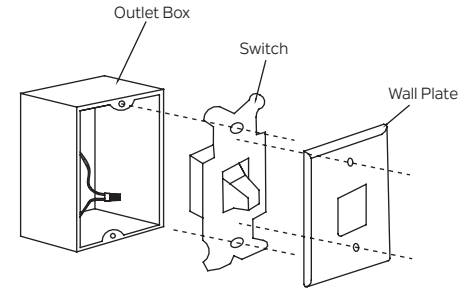

Fig. 22
Step 1. Remove the existing wall plate and the old switch from the wall outlet box. Wire the BLACK leads (hot) together with connector and push back inside the outlet box. (Fig. 22)